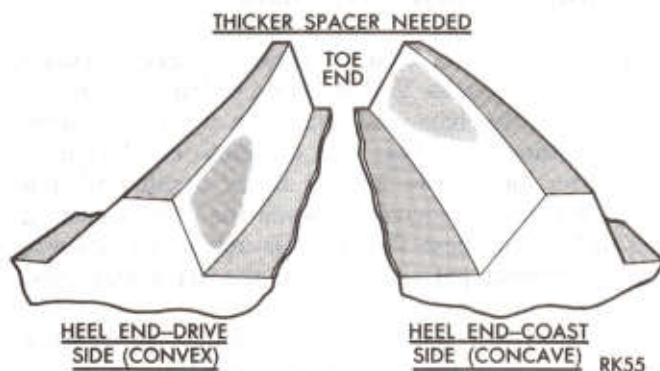
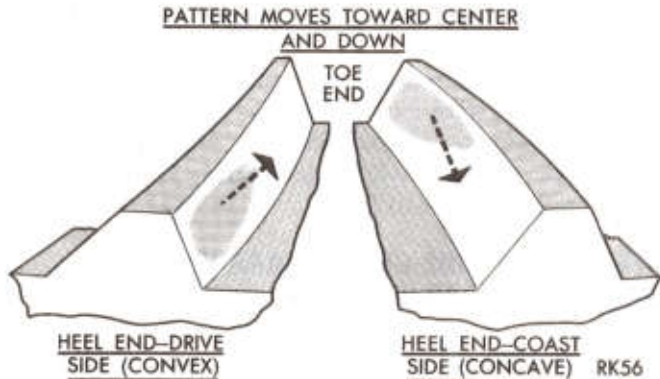

Fig. 34—Incorrect Tooth Contact Pattern (Increase Spacer Thickness)
Fig. 35—Effect on Tooth Contact Pattern as Spacer Thickness is Increased
(3) If after observing the contact pattern you find it resembles that in Fig. 34, the drive pinion is too far away from centerline of the ring gear, the contact pattern will appear high on the heel on drive side and high on toe on coast side. To correct this type tooth contact pattern, increase the thickness of shim located between the drive pinion and rear pinion bearing cone (Fig. 35), which will cause the high heel contact on drive side to lower and move toward the toe; the high toe contact on coast side will lower and move toward the heel.